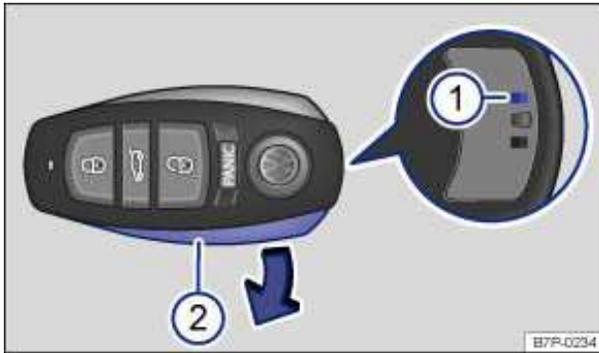

Fig. 21 Removing battery cover from the remote control vehicle key.
The battery is in the remote control vehicle key under a cover ⇒ fig. 21. When changing the battery, pay attention to the correct polarity and use the same type of battery ⇒ ⚠.
- Insert the thin left side of the cover ⇒ fig. 21 \(2\) in the remote control vehicle key and press the thick right side down until the cover locks into place.